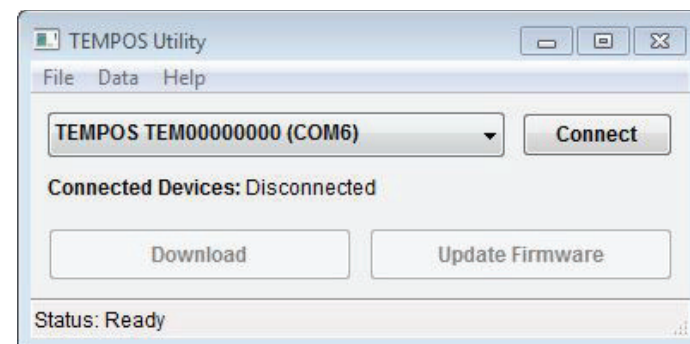

Figure 20 TEMPOS Utility downloader
- Once connected, the controller serial number will appear in the TEMPOS Utility dropdown (Figure 20).
2. Once connected, the controller serial number will appear in the TEMPOS Utility dropdown (Figure 20).
5. Press Download to download the data stored on the controller (Figure 20).
Once the downloader is installed, TEMPOS Utility will open a new window (Figure 20). The software can now be used to download data from TEMPOS.